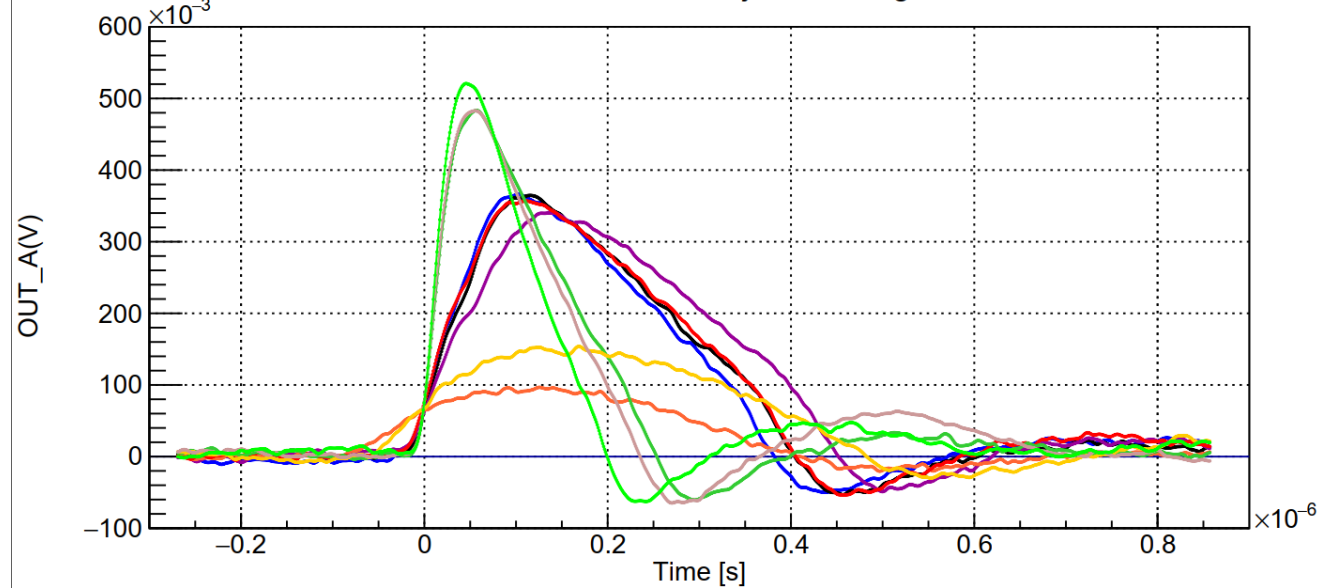

Fig3 Sr-90 injection under parameter1
- Fig1&Fig3 is the results of higher VRESET and higher ITHR than Fig2&Fig4
Fig3 fit pixel 127